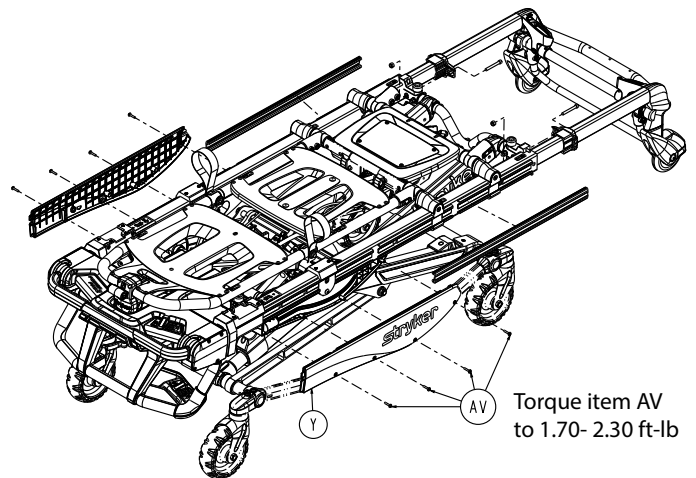

Figure 58 – Remove the slider block cover screws
8. Using a T25 Torx driver, remove the four round washer head tapping screws (AV) that secure the slider block cover (Y) to the slider block (Figure 58). Save the screws.